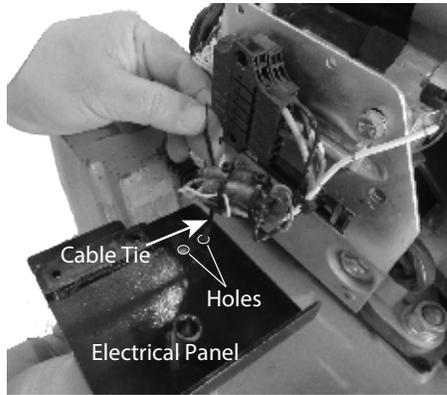

Figure 45. Secure Wiring to Electrical Panel
- Secure the wiring connectors to the back of the electrical panel with cable ties. See Figure 45.